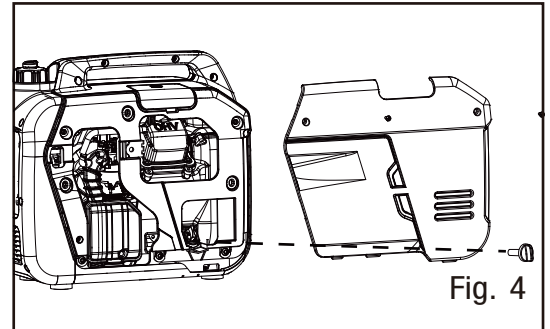

Fig. 4
2. Unscrew the two knobs, and remove the maintenance cover from the side panel (Fig. 4). Unscrew the oil dipstick from the engine.